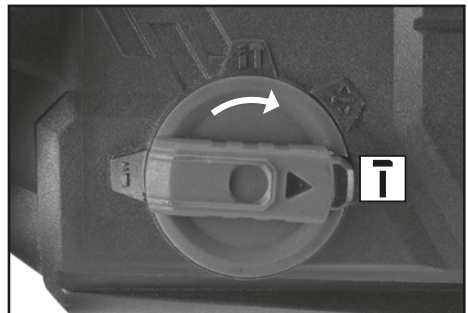

FIG.6
9.5 CHISELLING - FIG.6
- Rotate the function selector (2) to the chiselling setting.